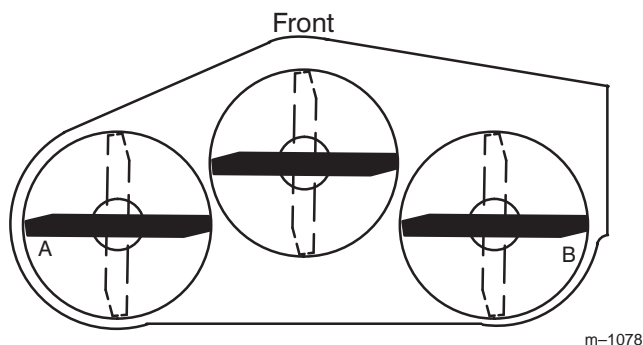
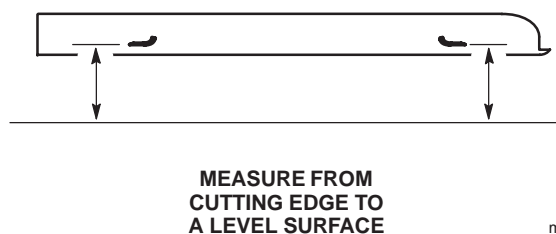

Figure 73
Figure 74
2. Position the blades side-to-side (Fig. 73). Measure at **A** and **B** locations (Fig. 73) from a level surface to the cutting edge of blade tips (Fig. 74).